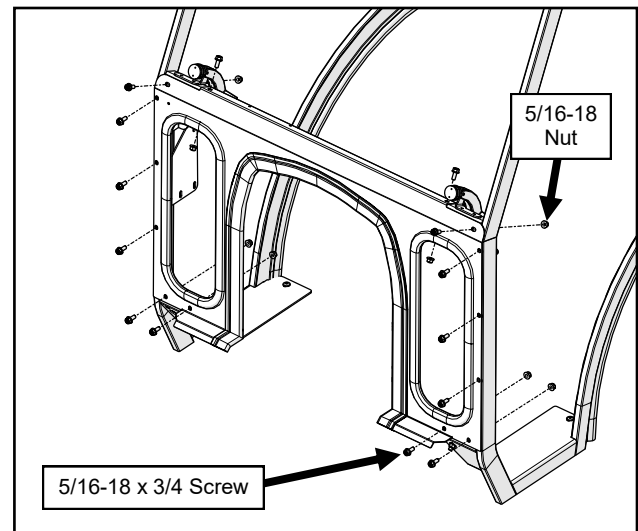

Fig. 6.1 (Install Cowl)
- 6.1 With assistance, carefully slide the cowl in place and loosely secure with fasteners. See Figure 6.1.